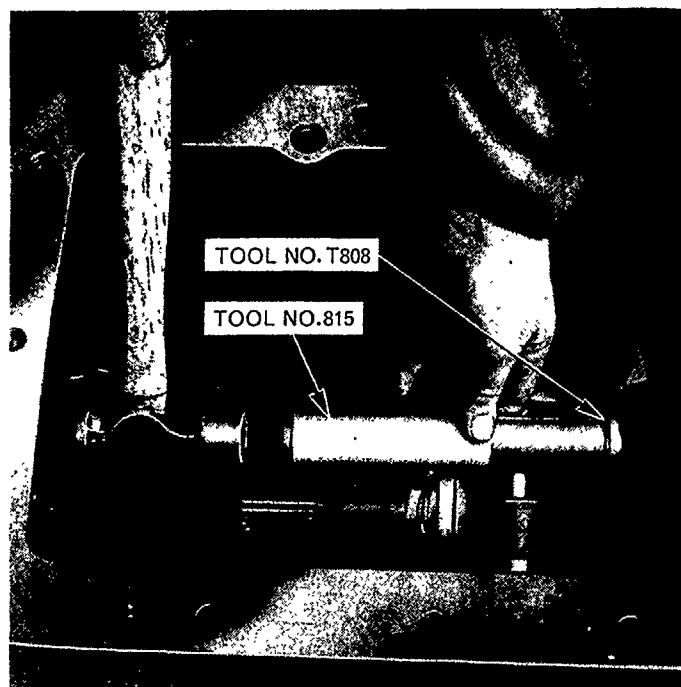

Figure 30
6. Inspect the rear upper shaft bushing in the centre housing for wear. If replacement is necessary remove the Hydraulic Lift Cover (refer to Part 11, Chapter 2), extract bushing from the centre housing and insert a new bushing using Tool T808 and 815 handle, Figure 30. To obviate any possibility of seizure on initial start up it is most important that the bushing is liberally coated with oil prior to assembly of the shaft.